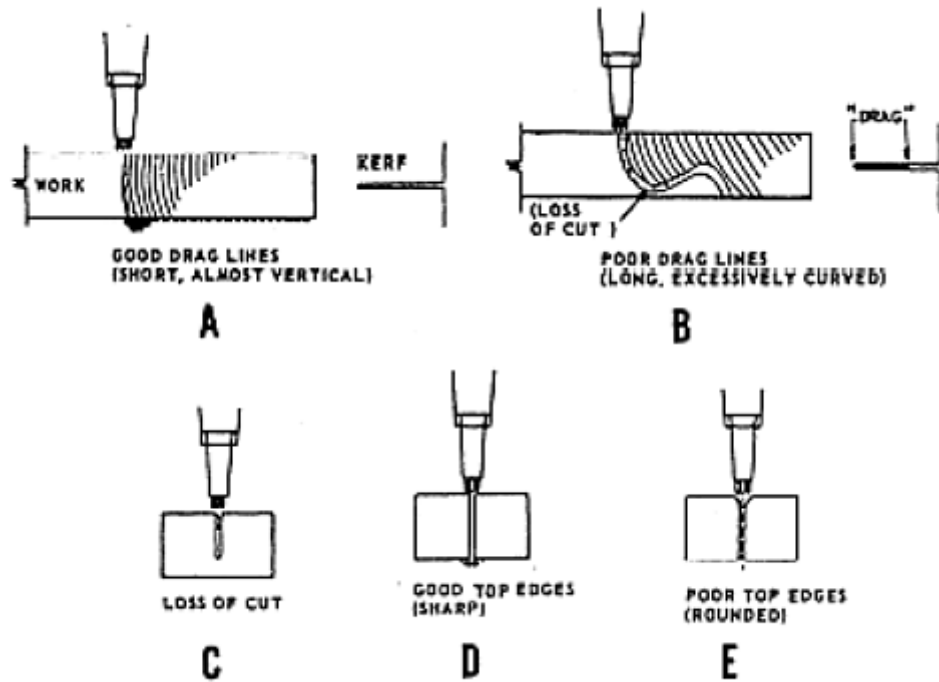

Figure 4-31.—Effects of correct and incorrect cutting procedures.
Drag lines are line markings that show on the surface of the cut. Good drag lines are almost straight up and down, as shown in figure 4-31, view A. Poor drag lines, as shown in figure 4-31, view B, are long and irregular or curved excessively. Drag lines of this type indicate a poor cutting procedure that could result in the loss of the cut (figure 4-31, views B and C). Draglines are the best single indication of the quality of the cut made with an oxygas torch. When the draglines are short and almost vertical, the sides smooth, and the top edges sharp, you can be assured that the slag conditions are satisfactory.
**TOP EDGE SHARPNESS** The top edges resulting from an oxygen cut should be sharp and square (figure 4-31, view D). Rounded top edges, such as those shown in view E of figure 4-31, are not satisfactory. The melting of the top edges may result from incorrect preheating procedures or from moving the torch too slowly.